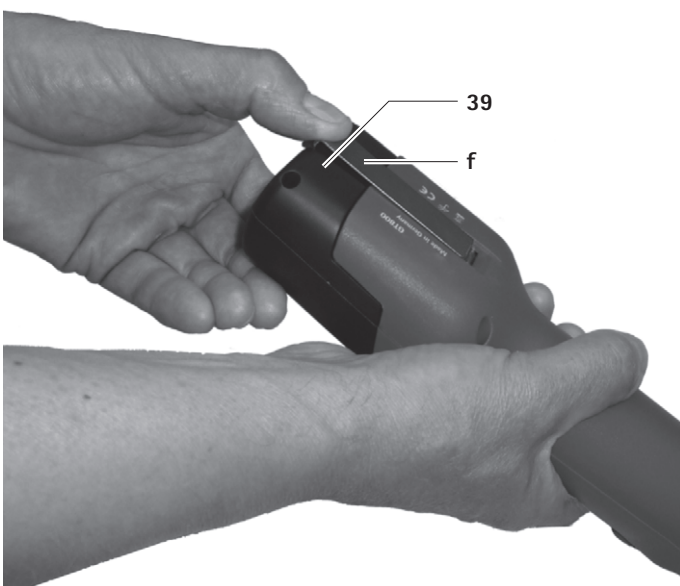

Fig. 3
- Secure the lithium ion battery **39** using the battery lock **f**, see Fig. 3.